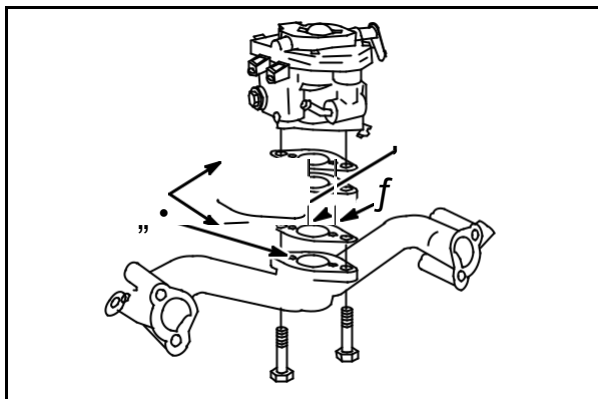

Fig. 29
Assemble gaskets (1), spacer (3) and carburetor to intake manifold, **Fig. 29**.